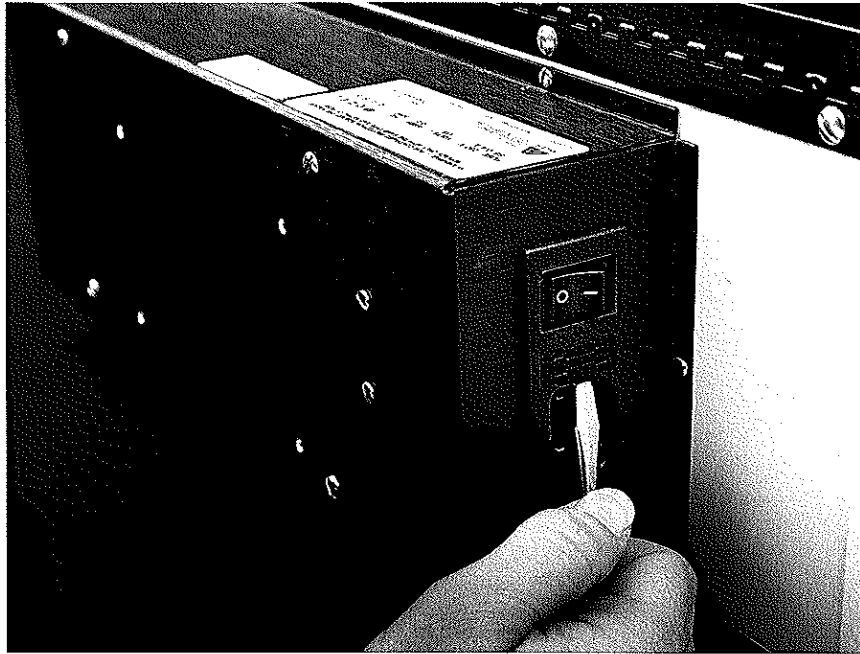

Figure 8-1
2. Using a small, short screwdriver, pry the fuse cover open (Figure 8-1). The entire fuse holder will now pull out of the instrument like a small drawer.